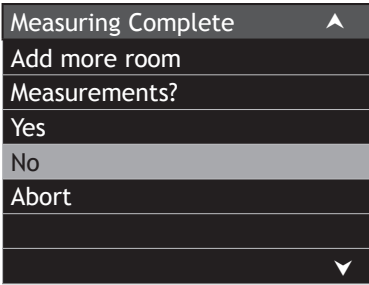

Figure 42
- 11. With the menu choice NO highlighted, press the SELECT Push-button to continue. Refer to figure 42.